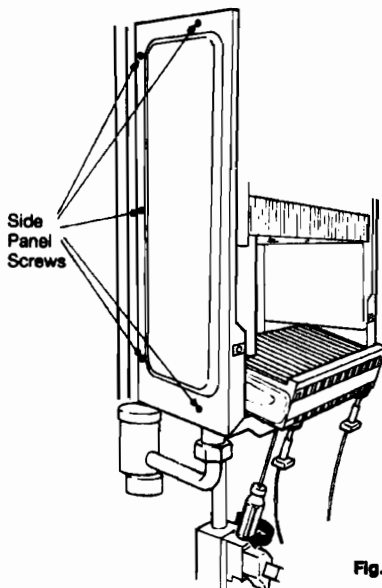

Fig. 31
Refer to fig 31
Note: If difficulty is found in relocating the burner securing screws, easy access can be gained by removing the two side panels (fig 31).
- 8.8.5** Remove both side panels, 5 screws each (fig 31)